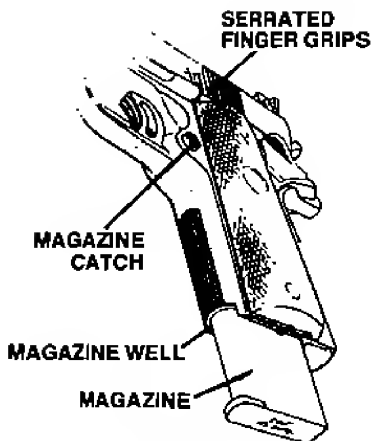

FIGURE 4—MAGAZINE PARTIALLY INSERTED
2. Remove empty magazine from pistol (after placing your hand under magazine to prevent it from falling) by pressing magazine catch (located on left of pistol behind trigger guard) to release and eject magazine from magazine well. (See Figure 4).